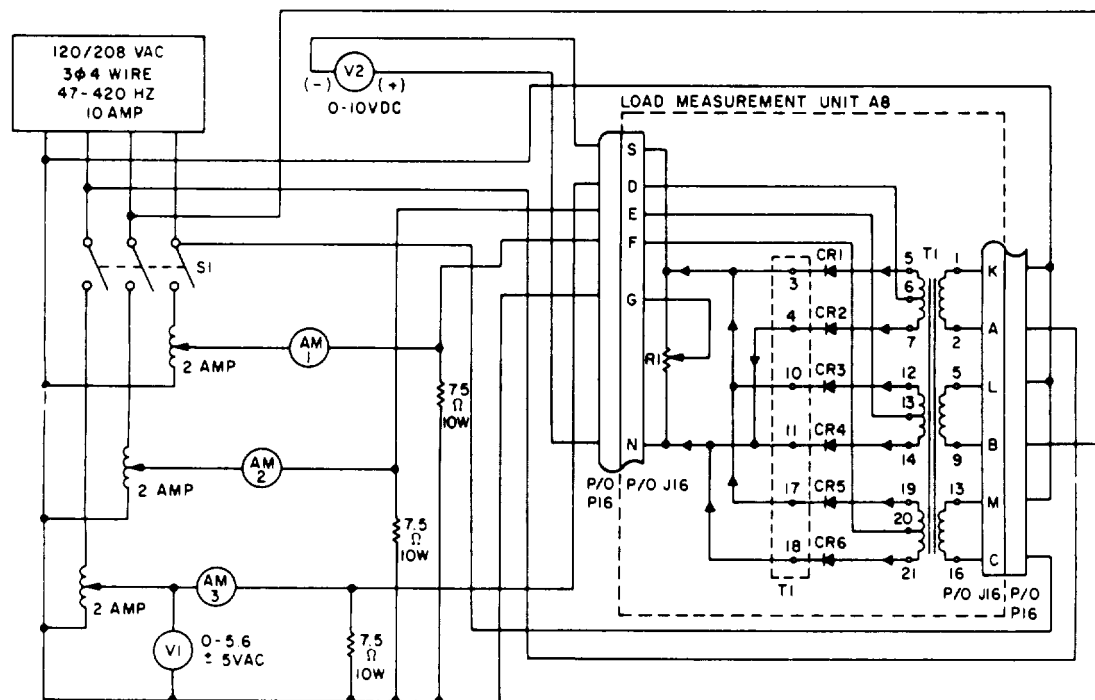

Figure 6-60. Load measurement unit (LMU), test setup
- a. Connect load measurement unit to the test equipment as illustrated in figure 6-60.